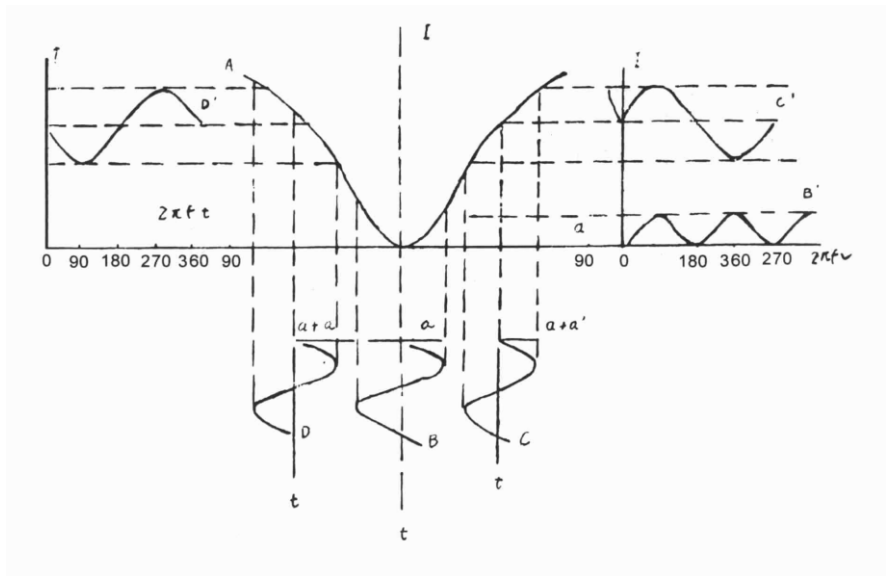

Figure 1
As shown in Figure 1, when the both ends of Faraday ring is connected to a frequency of f sinusoidal alternating voltage ($u = U\sin 2\pi ft$), according to the Faraday Magneto-optical Effect, the vibration plane which the plane-polarized light goes through will add an additional angle of rotation: $\alpha_1 = \beta \cdot \sin 2\pi ft$. When there is a Faraday ring between the polarizer and the analyzer, the intensity signal of emission light from analyzer is as below:
- In the quadrature position, the curve B and B' in Figure 1 can be obtained. The light intensity signal is the superposition of the light intensity of a constant frequency and a $2f$ alternating light intensity.
- When the quadrature position is deviated from the right, the curve C and C' in Figure 1 can be obtained. The light intensity signal is the superposition of the light intensity of a constant frequency and a $2f$ alternating light intensity, see curve C'.
- When deviating from the quadrature position leftward, the curve D and D' in Figure 1 can be obtained. The light intensity signal is the superposition of the
If the analyzer deviates from orthogonal position of the polarized plane where the light reaches, the light goes through the alternating light intensity signal with frequency f , and through the photomultiplier tube, it is converted into an electrical signal with frequency f . According to figure 1, if the sample is left-handed, in the position of D, the microcontroller controls the stepper motor, turns the analyzer from left to right, and generates a pulse signal when passing the orthogonal position. After overshoot, the microcontroller controls the stepper motor and rotates the detector from right to left. When the orthogonal position is passed, it will also generate a pulse signal. The microcontroller also writes down the angle signal at this time. After repeated "zero crossing trigger", the angle of the record is averaged, and the optical rotation of the sample can be accurately measured.